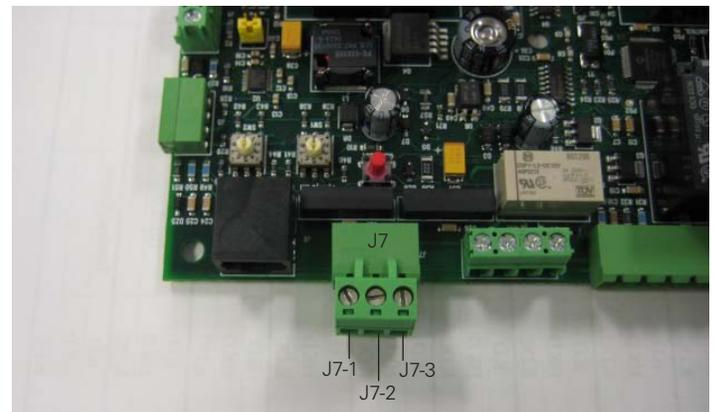

Figure 13. Dry Contacts
Step 3: If your generator is a two wire start type generator that requires a contact closure or open to provide the start signal then connect the 2 wires to the connector located on J7. J7 is a form C contact that can be utilized for either form of two wire start circuits. If a contact closure is required for engine start, connect the two wires to J7-1 and J7-2. If a contact open is required for engine start, connect the two wires to J7-2 and J7-3 (see Figure 13).